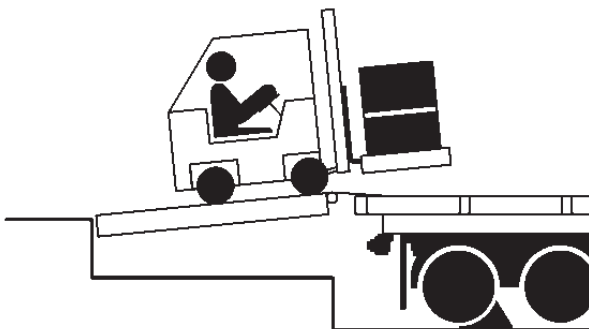

Figure 18
- c. Make sure that the lip is fully extended and supported on the transport vehicle along the entire width of the platform, with at least 4 in. (102 mm) of lip contacting the transport vehicle bed. See Figure 18.